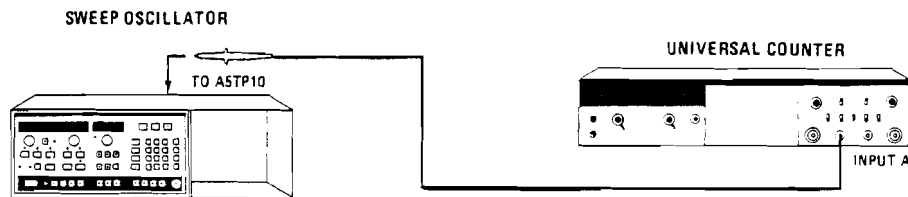

Figure 5-14. 27.8/1 kHz Oscillator Adjustment Setup.
2. Position the sweep oscillator upright as shown in Figure 5-14 and remove the top cover and the A4/A5 shield cover.
10. Connect the equipment as shown in Figure 5-14.